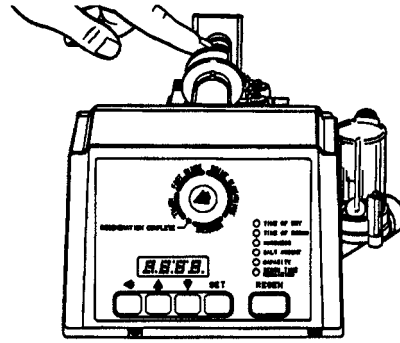

Figure 12
5. To remove the camshaft or reinstall it, the rib on the shaft must be pointing straight up. This occurs when the indicator knob is rotated to the refill position. Press down on the back of the camshaft to disengage it from the rear "hoop" of the top plate, Figure 12.